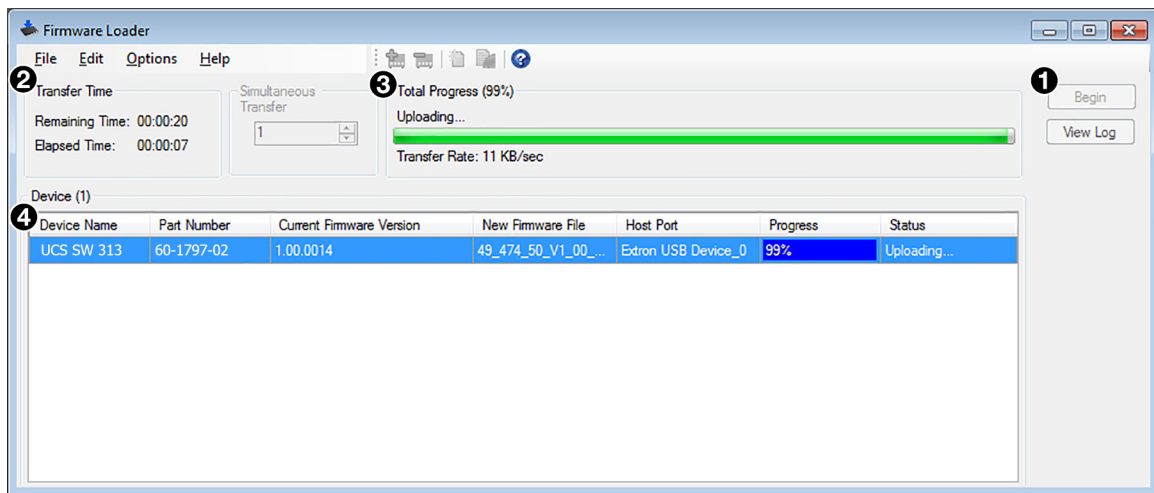

Figure 27. Firmware Upload in Progress
7. In the Firmware Loader dialog box, click **Begin** (see figure 27, ①).